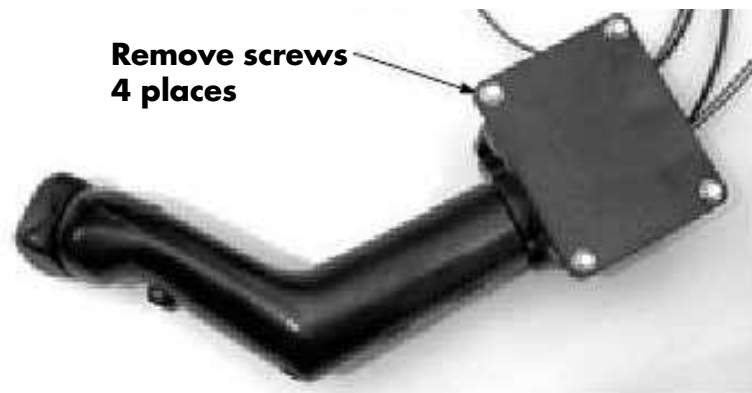

Figure 7-14. Travel Pot Cover Removal
1. Remove the four hex head cap screws from the front of the travel pot enclosure and remove cover. See Figure 7-14.
17. Install the cover on the travel pot enclosure with the four hex head cap screws. See Figure 7-14.
6. Install the cover on the travel pot enclosure with the four hex head cap screws. See Figure 7-14.